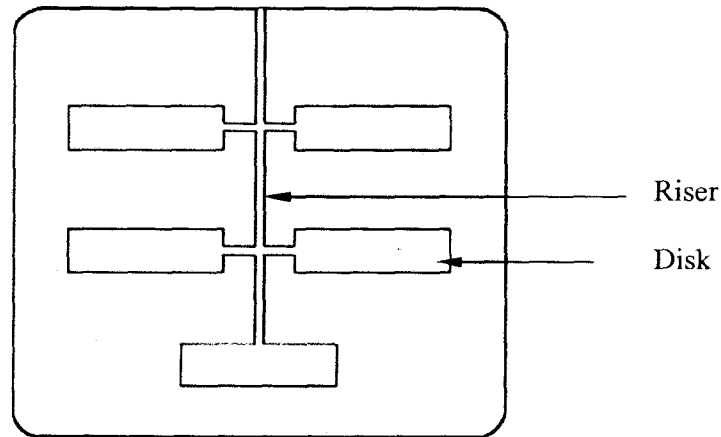

Figure Q4[b]
- [b] A plastic injection molding is designed with five identical disks in one die as shown in Figure Q4[b]. The diameter of the disks are 150 mm and the thickness are 50 mm. Assuming a pressure of 70 MPa and the die is set up with 25 mm diameter risers. Estimate the die-clamping force required for the injection molding by assuming the total length of the risers is 500 mm.**